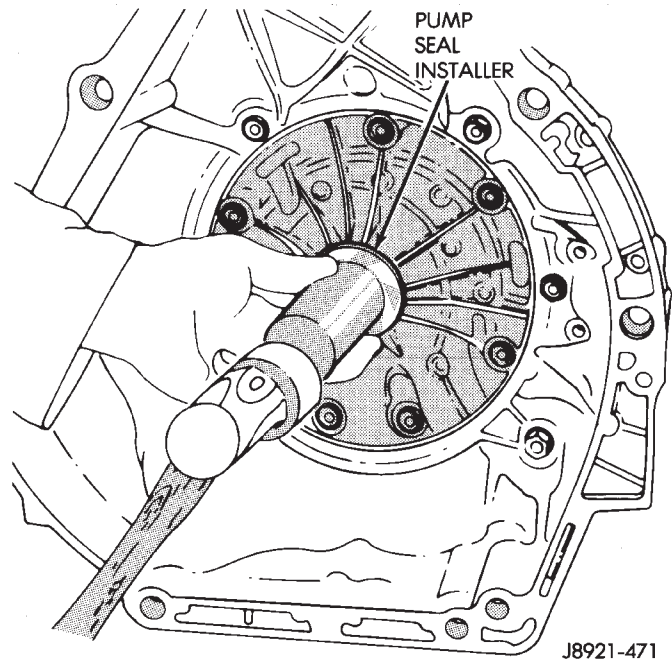

Fig. 52 Installing Oil Pump Seal
- (1) Remove converter.
- (2) Remove old seal. Use blunt punch to collapse seal and pry seal out of pump housing. Do not scratch or damage seal bore.
- (3) Lubricate lip of new seal with Mopar Mercon transmission fluid and install seal in pump with tool 7549 (Fig. 52).
- (4) Lubricate converter drive hub with Mopar Mercon transmission fluid.